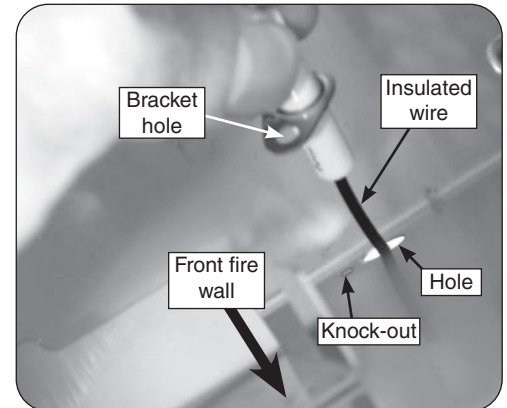
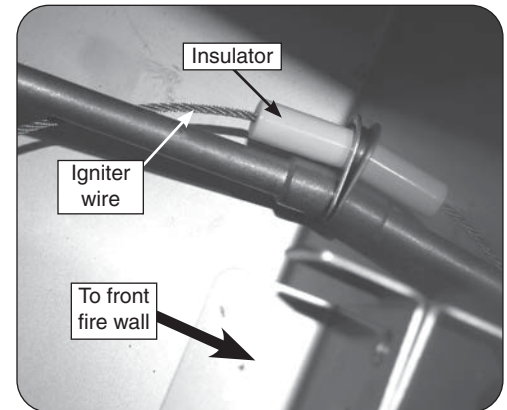

Fig. 3-1 Slide the wire through the fire wall
Fig. 3-2 Screw in the new wire insulator
1. Locate the new igniter wire assembly with the insulator and feed the insulated wire through the hole in the forward fire wall left by the old igniter box, as shown in Fig. 3-1.
2. Remove the knock-out next to the igniter hole. Attach the insulated portion of the igniter wire assembly to the inside of the fire wall and fasten using the provided screw and the knock-out hole (see Fig. 3-1 and Fig. 3-2).